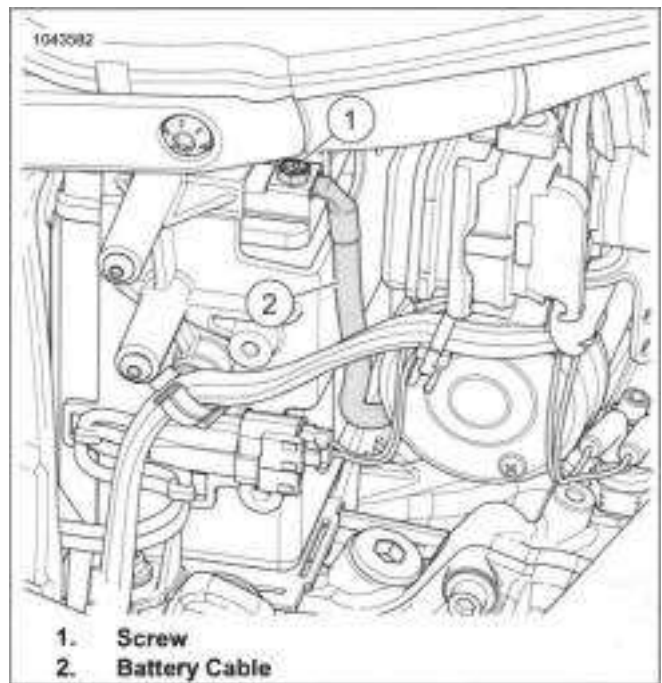

Figure 7-4. Negative Battery Cable Disconnect
3. See Figure 7-4. Remove screw (1).
4. Disconnect negative battery cable (2).
1. See Figure 7-4. Connect negative battery cable (2).
2. Install screw (1). Tighten